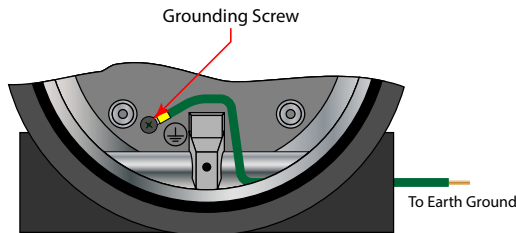

Figure 11: Required grounding for Ex-proof enclosure
**GROUNDING FOR THE EXPLOSION PROOF ENCLOSURE IS NECESSARY. THE EXPLOSION PROOF ENCLOSURE IS PROVIDED WITH A GROUNDING SCREW ON THE INSIDE OF THE ENCLOSURE. THE CONDUCTOR USED FOR GROUNDING MUST BE OF A WIRE GAGE EQUAL TO OR GREATER THAN THE SIGNAL WIRES BEING USED. SEE FIGURE 11.**